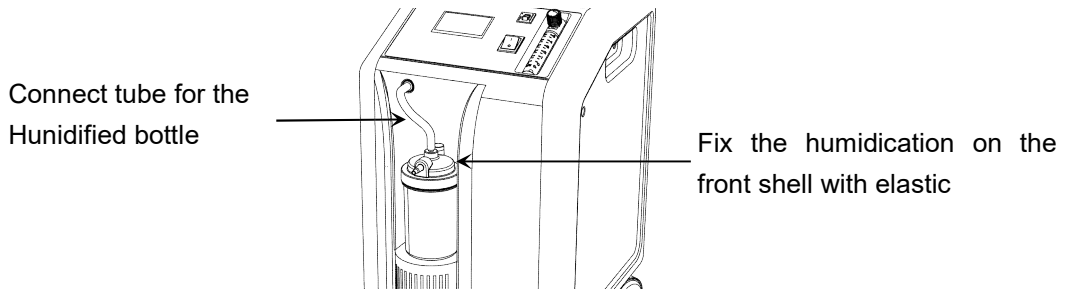

Figure 3-2 Humidification bottle installation position
- b. Fix the humidification bottle on the front shell with elastic and the connect the air intake connector by the connecting tube of the bottle while another part to connect the oxygen exit. (as Figure 3-2).